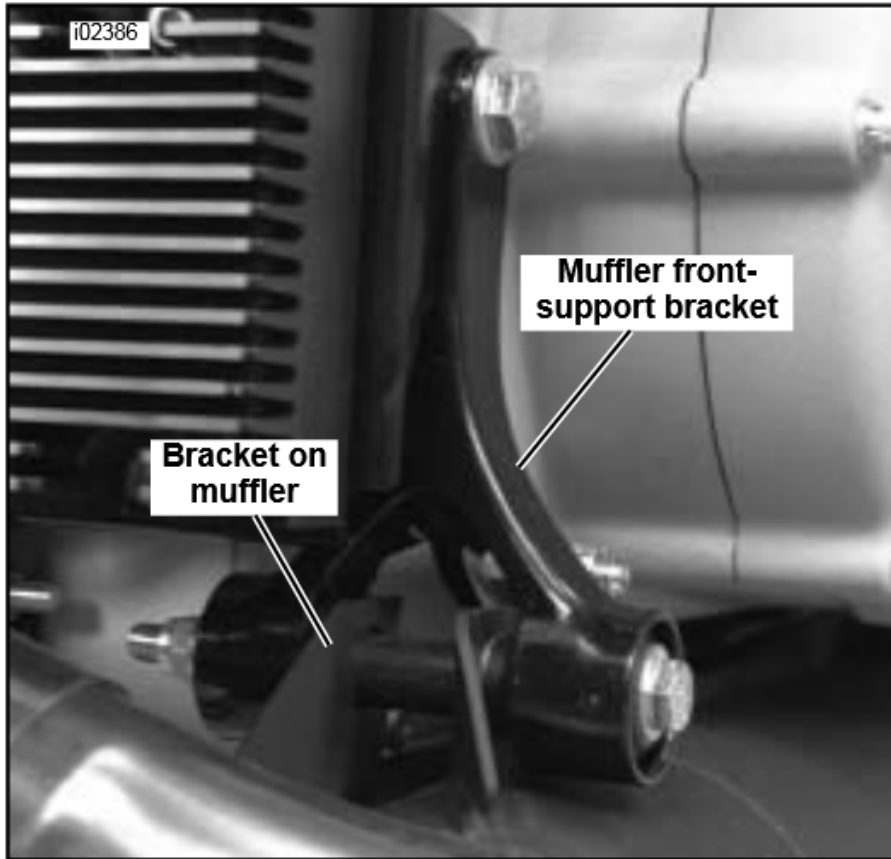

Figure 2. New front-support bracket P/N S1001.01A1
5. See Figures 2, 3, and 4. Remove the bolts, lock washers, and washers fastening the muffler to the front-support bracket. Save these fasteners for muffler installation.
7. See Figure 2, 3, and 4. Using the stock fasteners, loosely fasten the muffler to the front-support bracket.